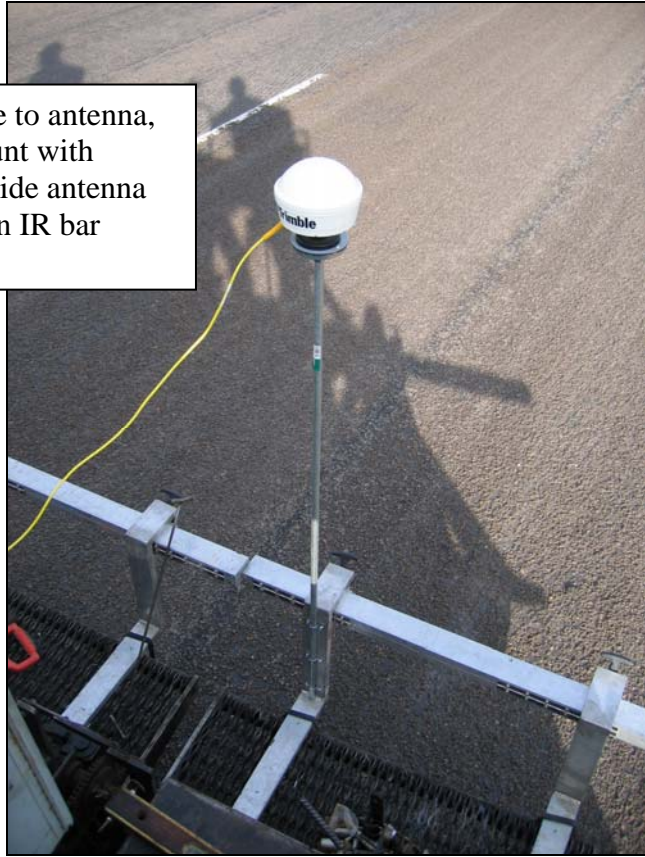

Figure 9. Installing GPS Antenna.
- Install the GPS antenna cable to the antenna, then secure the antenna to the top of the antenna mount (See Figure 9).
- Slide the antenna mount into the clamps on the IR bar mount (see Figure 9).